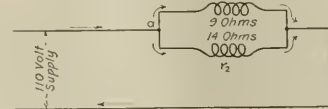

FIG. 2. PARALLEL OR DIVIDED CIRCUITS.
An illustration of the parallel or divided circuits is shown by Fig. 2. The current on reaching point "a" divides, a certain
greater the less the resistance. For example, if the resistance of a circuit is 2 ohms the conductance is $\frac{1}{2}$. If the resistance is $\frac{1}{4}$ the conductance is 4. In the case of the circuit, Fig. 2, the resistances are r_1 and r_2 , so that the conduct-
6. What is the joint resistance? Fig. 2. Also, what current will flow from the source of supply, and how will it divide?